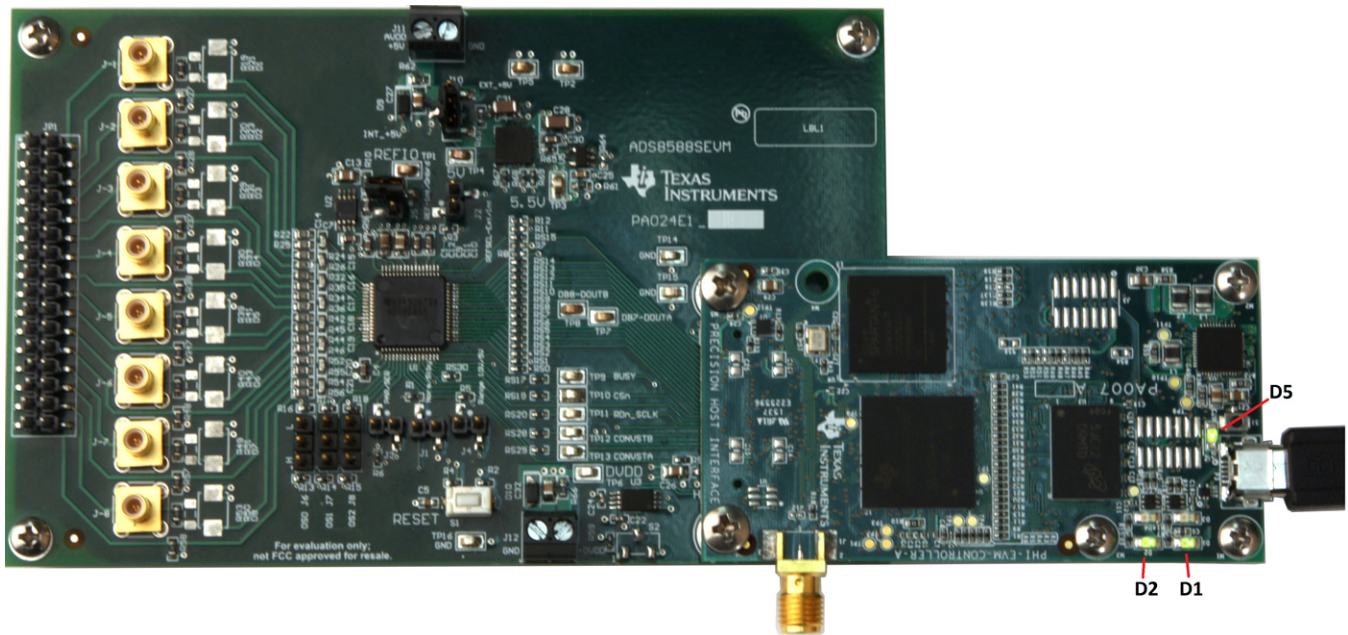

Figure 8. ADS8588SEVM-PDK Hardware Setup and LED Indicators
1. Connect the ADS8588SEVM to the PHI. Install the two screws as indicated in Figure 8.
- b. LEDs D1 and D2 on the PHI starts blinking to indicate that the PHI is booted up and communicating with the PC. The resulting LED indicators are shown in Figure 8.